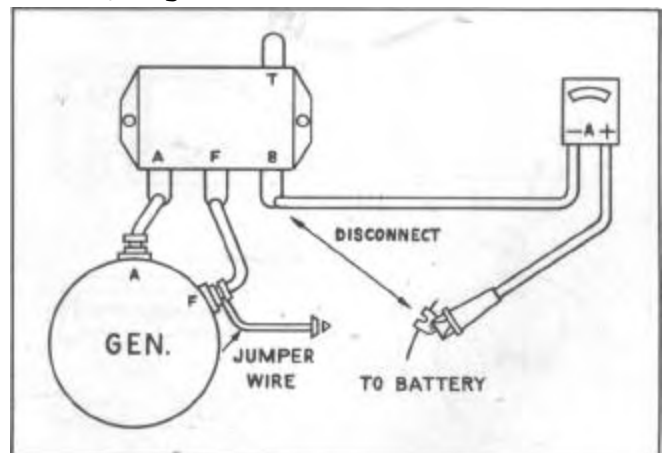

FIGURE 26
1. Disconnect the battery wire at the voltage regulator "B" terminal and connect the test ammeter between the voltage regulator "B" terminal and the wire disconnected, Figure 26.